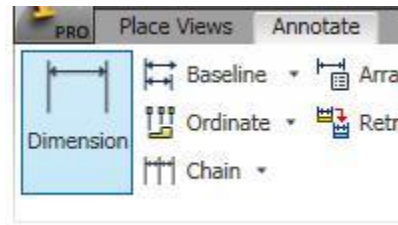

Figure Step 17A
Add the remainder of the dimensions to match the figure. This is done using the GENERAL DIMENSION (D) command, just like you did when creating your 2D sketches. (Figure Step 17A and 17B)